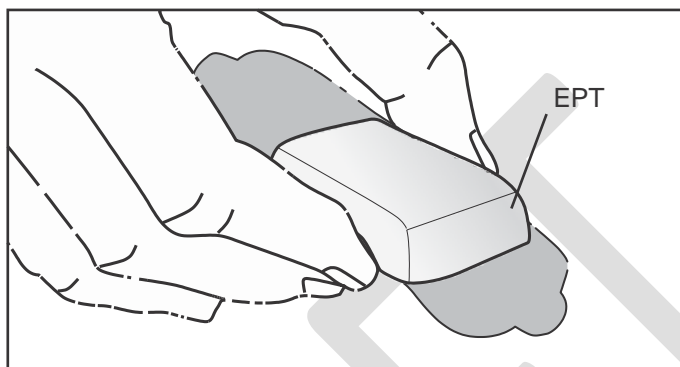

Figure 6-9. Grasp the edges of the EPT attached to the StimRouter electrode.
- Using the index finger and thumb, grasp the edges of the StimRouter electrode so that the gel electrodes face away from the palm. See Figure 6-9.